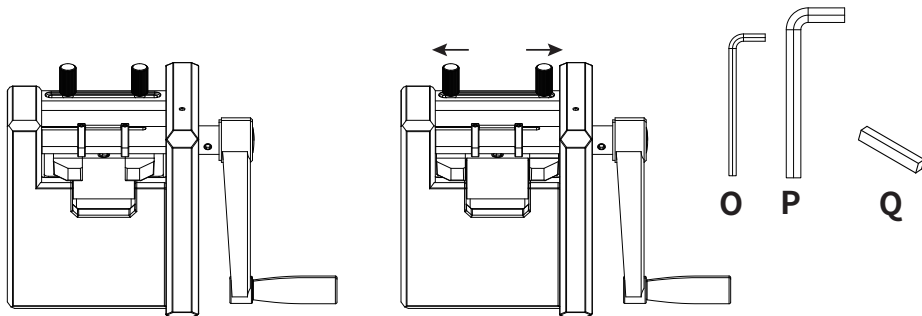

Fig.5
- 1.As shown in Fig. 5, loosen the Belt Width Adjustment Nut and adjust it to the widest position.